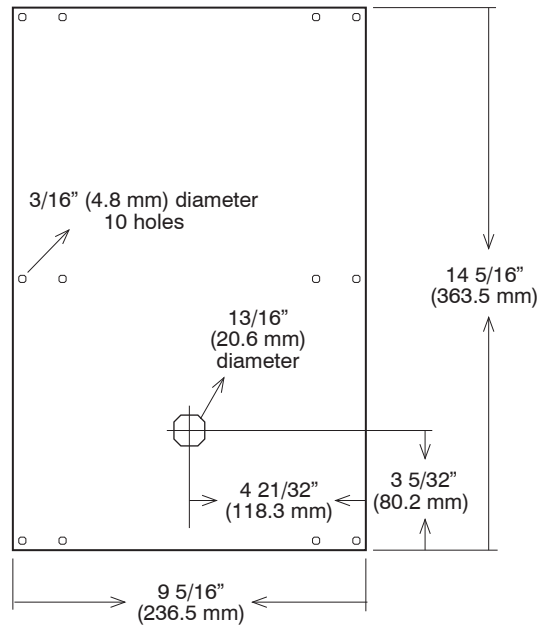

Figure-3 Dimensions of Base Mounting Plate AM-675.
- c. Mark the mounting hole locations on the base mounting plate (See Figure-3). Drill the mounting holes at the marked locations.
- i. If the base mounting plate is not used, position the weather shield on the mounting surface. Transfer the mounting hole locations from the weather shield to the mounting surface (See Figure-3). Drill the holes at the transferred locations in the mounting surface.
See Figure-3 for dimensional data for Base Mounting Plate AM-675.